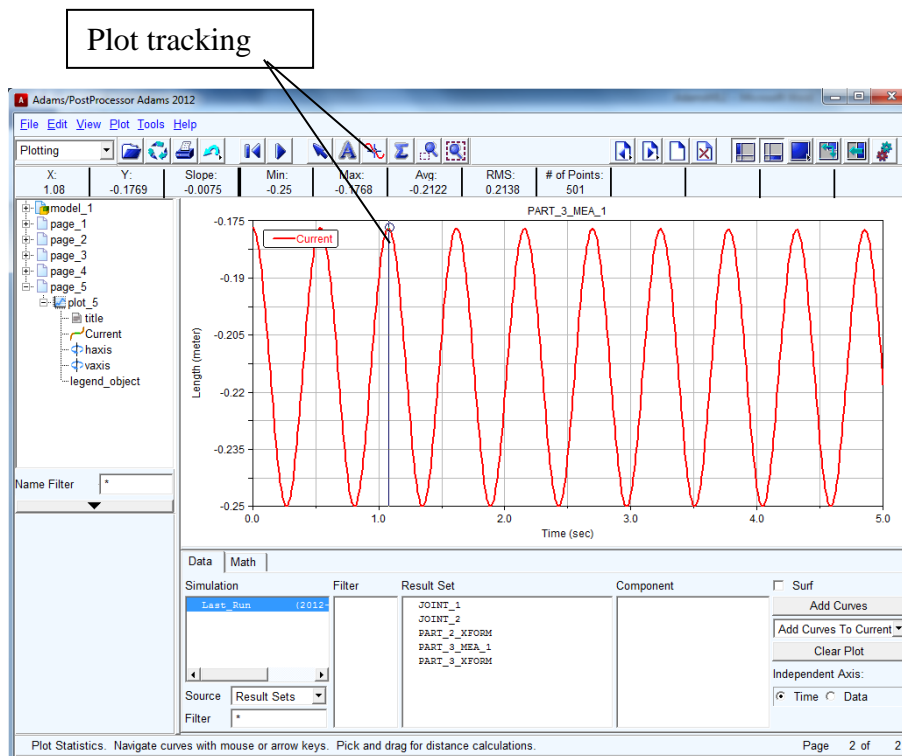

Figure 1.15
- In the plot, identify the period time  $T$  for the present “Case a:  $m_b = 0$ ,  $m_s = \text{steel}$ ,  $L = 0.25\text{m}$ ” by using “Plot tracking”, see Figure 1.15 below. (The mass of the sphere is that of steel by default.)